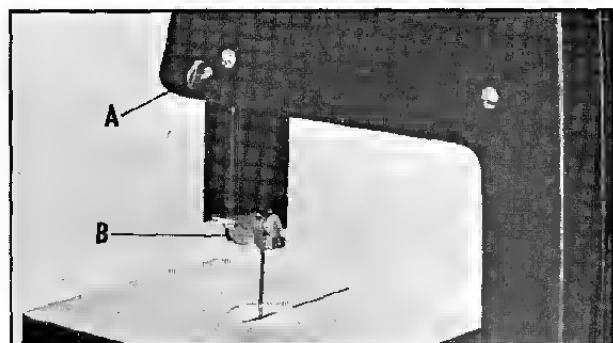

Fig. 18
The upper blade guide assembly (B) Fig. 18, should always be set as close as possible to the top surface of the material being cut by loosening thumb screw (A) Fig. 18, and moving the guide assembly (B) to the desired position.